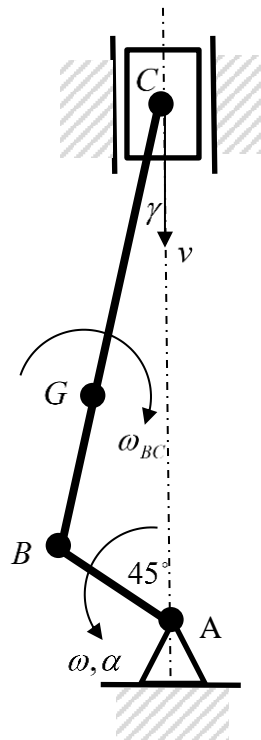

Figure Q1
1. Figure Q1 shows a slider-crank mechanism in which a motor drives crank AB about a fixed axis at A causing connecting rod BC to exhibit general plane motion and the slider at C to translate in the vertical direction. The relevant dimensions of the links are shown in the figure. At the instant shown angle  $\gamma = 13.63^\circ$ , the crank AB has constant angular speed  $\omega = 100 \text{ rpm}$ , the connecting rod BC has angular velocity  $\omega_{BC} = 2.5405 \text{ rad/s}$  and the slider has velocity  $v = 0.9209 \text{ m/s}$ .